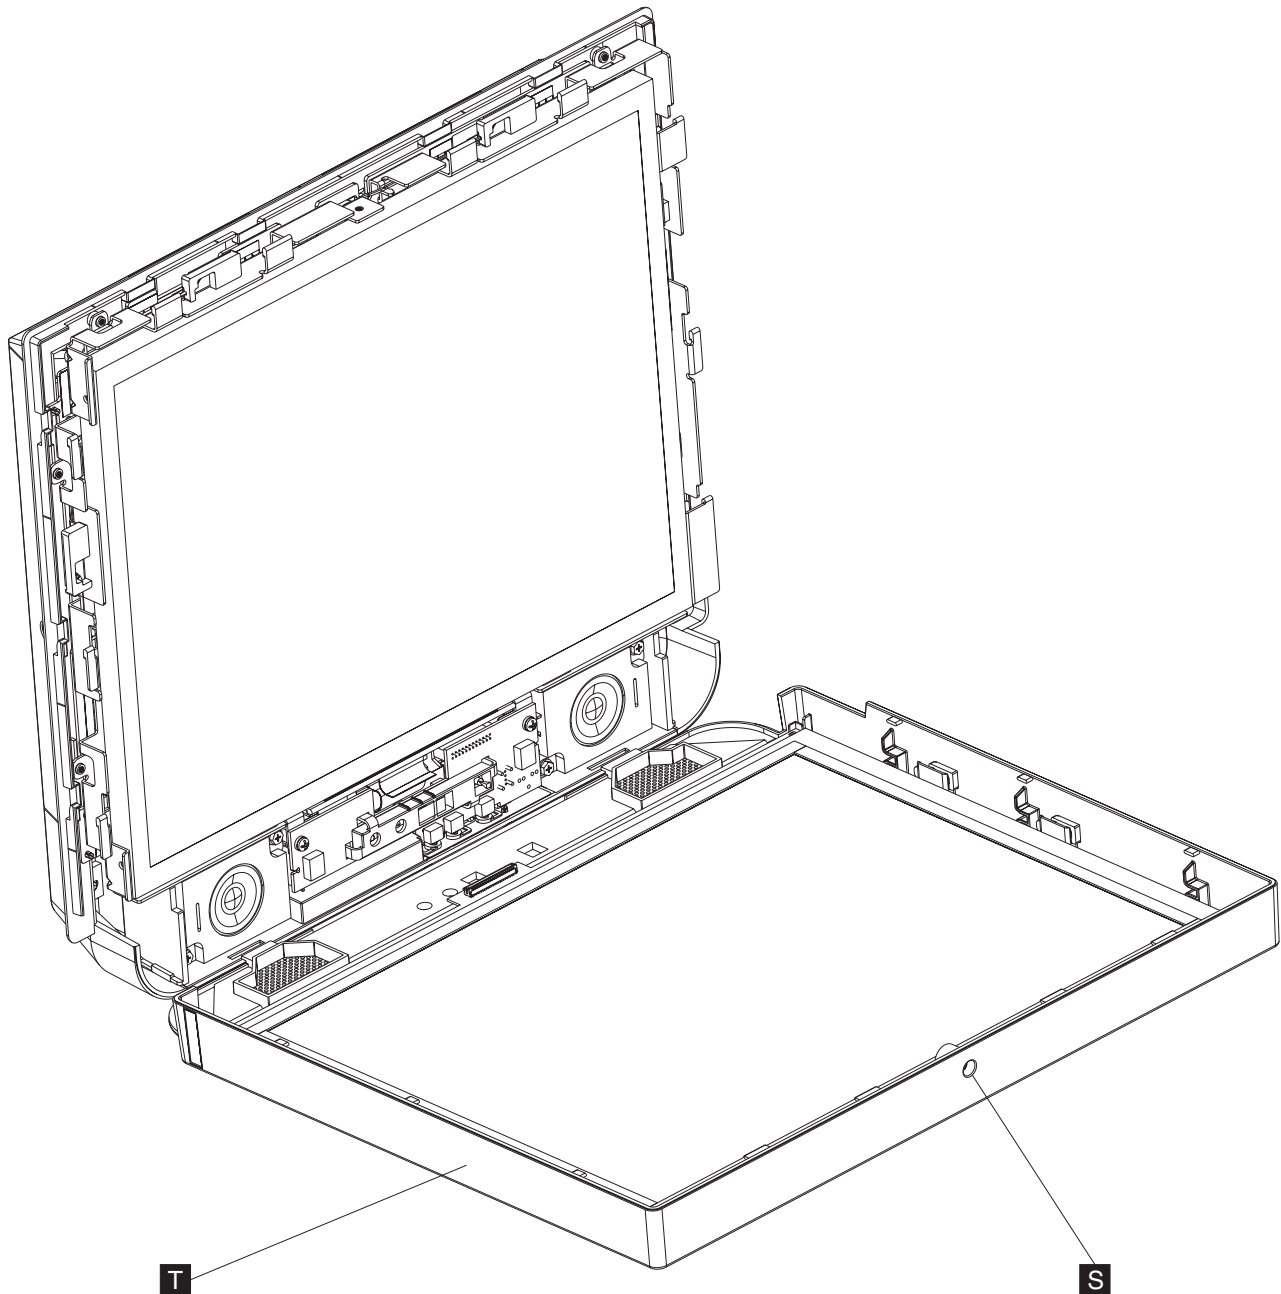

Figure 34. Removing the front cover/touch assembly
3. Open the front cover/touch assembly (**T** in Figure 34) by loosening the captured screw (**S**).
- Slide the front cover/touch assembly (hereafter referred to as the front assembly) upward approximately 8 mm (0.3 in) then rotate the front assembly downward from the LCD to open. See Figure 34 on page 55.
Note: See the Open and Locked connector lever positions shown in Figure 34 on page 55.